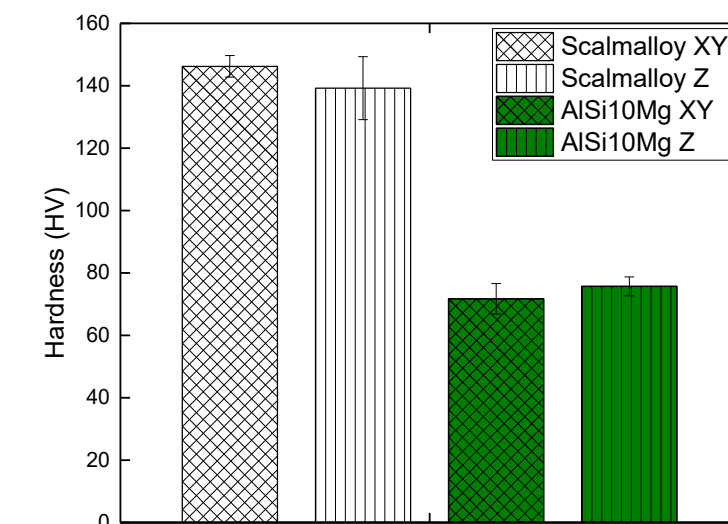

Fig. 11 Vickers hardness HV0.1 [3]
Fig. 11 shows the average microhardness (HV0.1) results for Scalmalloy and AlSi10Mg in the XY and Z build directions. Five indentations for each condition were conducted in the clamping area, over flat surfaces without porosity. Similarly to the tensile strength and strain, there were not large differences between the XY and Z build directions for the hardness values. Nevertheless, Scalmalloy exhibited higher hardness (HV) values than those obtained for AlSi10Mg; almost double, as for the tensile strength values. The error, obtained for Scalmalloy Z build direction, was relatively high due to the porosity and anisotropy arising from the L-PBF process.